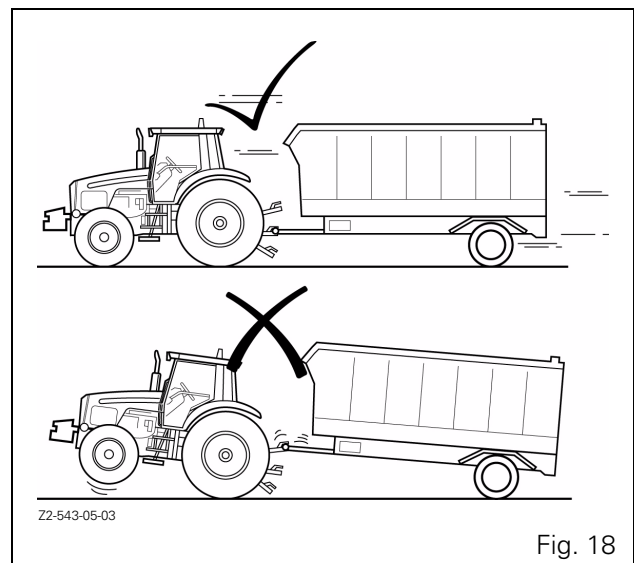

Fig. 18
- Pull only from the approved drawbars. Towing or attaching to other locations may cause the tractor to overturn (Fig. 18).